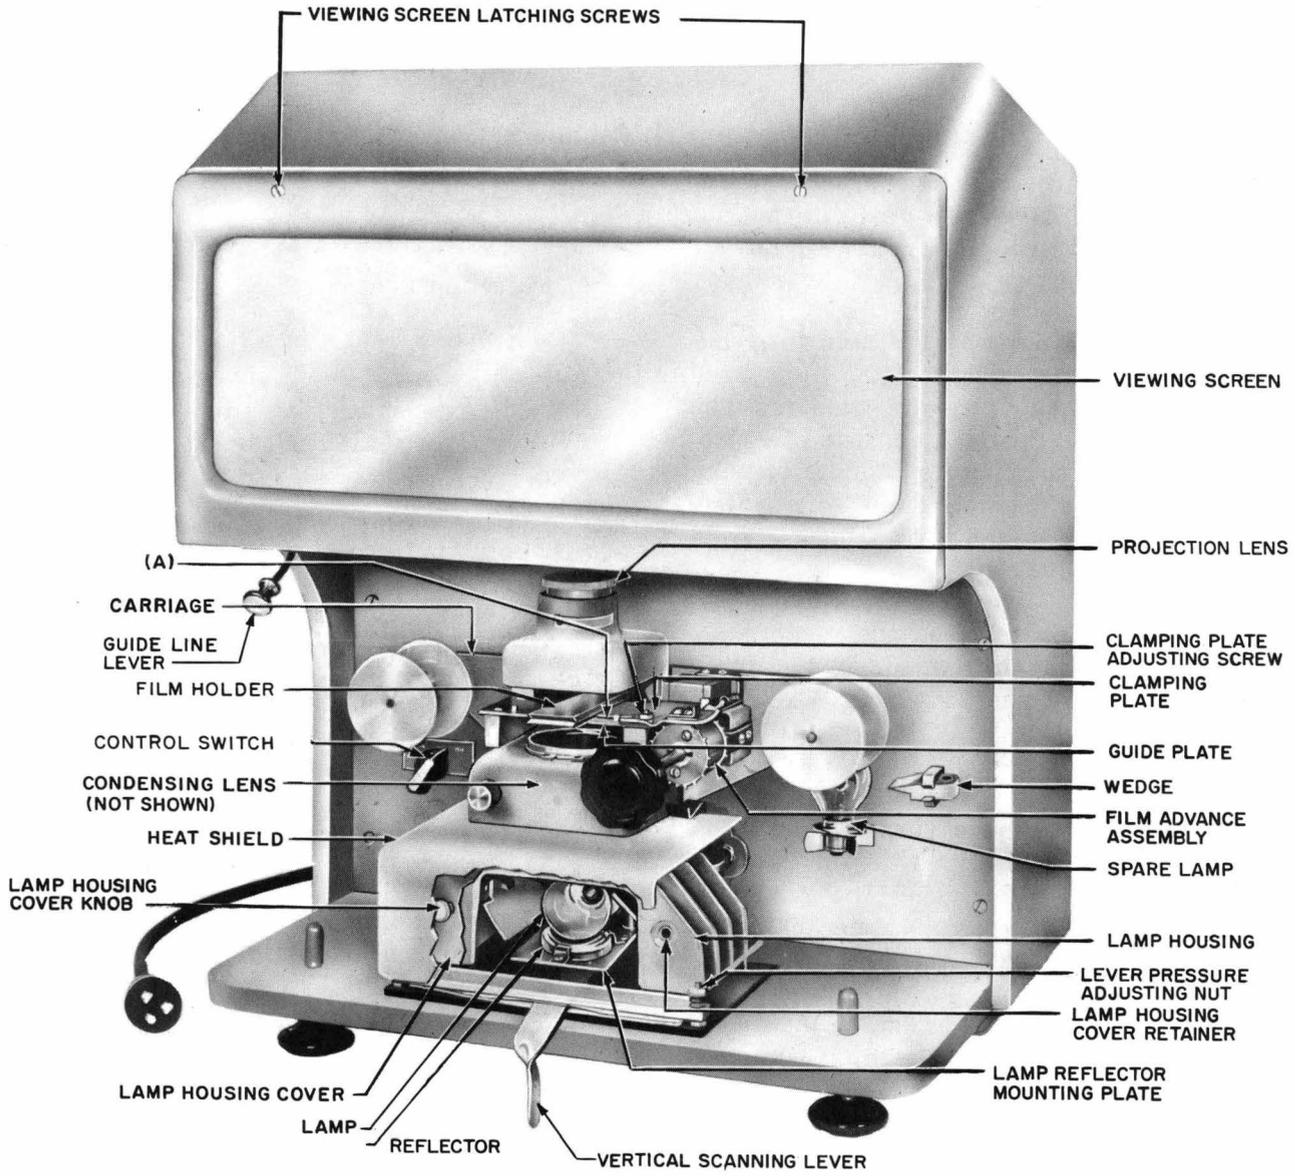

Fig. 1 - KS-16789, L1 Reader
1.03 The KS-16789, L1 reader is used for reading the 35mm traffic register films used in the KS-14776 traffic register camera. The reader, shown in Fig. 1 and 2, consists of a projector, two reflecting mirrors, and a viewing screen mounted in a cabinet. The 6-volt projection lamp operates through a transformer from the 120-volt, 60-cycle supply.
(a) Both glass plates of the film holder (Fig. 1) shall be cleaned daily prior to using the reader.
(b) The following parts (Fig. 1 and 2) shall be cleaned monthly.
2.04 Separation Between Clamping and Guide Plates: Fig. 1(A) — With the clamping plate in the lowered position, the separation between the clamping and guide plates shall be